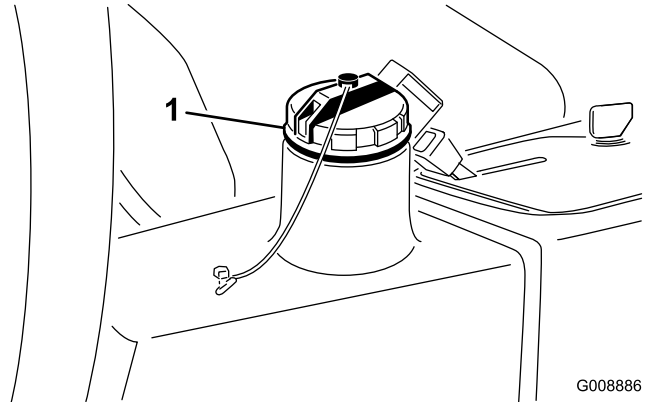

Figure 74
4. Fill the reservoir (Figure 74) with approximately 3.5 U.S. gallons (13.2 l) of hydraulic fluid; refer to Checking the Hydraulic System.